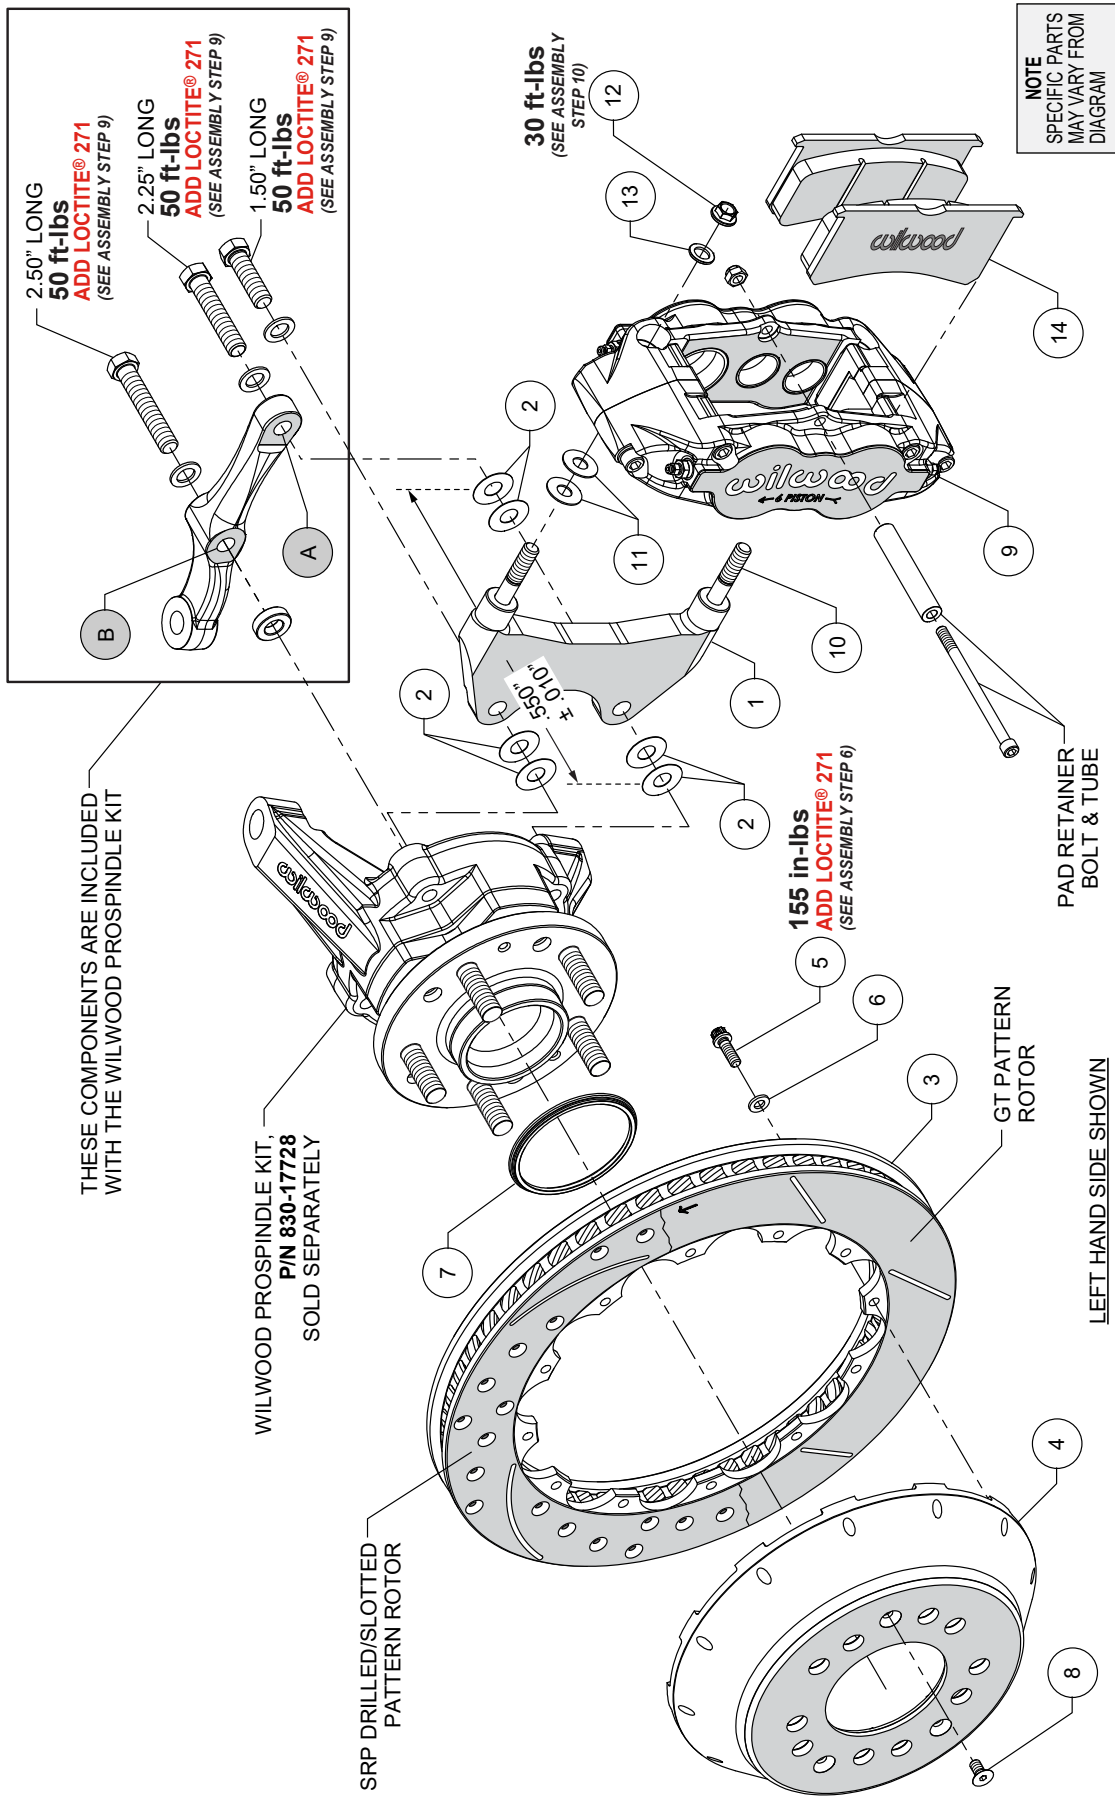
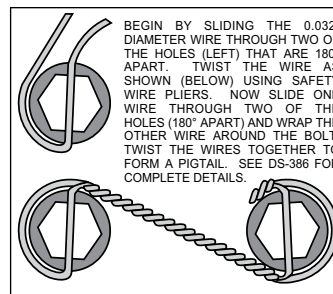

Figure 1. Typical Installation Configuration
Figure 3. Safety Wire Diagram
- NOTE:** This brake kit fits Wilwood's 2" drop ProSpindle (P/N 830-17728). Some hardware shown in Figure 1 is included with the ProSpindle kit (sold separately).
NOTE: Numbers in parenthesis refer to the parts list and Figure 1 on the preceding pages.
NOTE: Each Wilwood ProSpindle kit (sold separately) includes bolts, washers, and a spacer to mount the steering arm and caliper bracket. The various bolts are identified by length in the following instructions and in Figure 1.
STEP 1 The caliper bracket (1) should initially be installed with clean, dry threads on the mounting bolts. Orient the bracket as shown in Figure 1 and Photo 1.
STEP 2 Install the bracket (1) at top spindle hole using 1.50" long bolt and .063" thick washer (from ProSpindle kit), and two .016" thick shims (2) between the bracket and spindle, Figure 1 and Photo 2
STEP 3 Orient the steering arm, and identify the hole marked 'A', as shown in Figure 1 and Photo 2. Install at bottom spindle hole using 2.25" long bolt and .063" thick washer (from ProSpindle kit), two .016" thick shims (2) between the bracket and steering arm, and
another two .016 thick shims (2) between the bracket and spindle, Figure 1 and Photo 2. The bracket is located between the steering arm and spindle. **NOTE:** The bracket and shim washers must add up to a total thickness of .550" ± .010".
STEP 4 Finish attaching the steering arm through the hole marked 'B', as shown in Figure 1 and Photo 2. Install using 2.50" long bolt, .063" thick washer, and .250" thick spacer (all from ProSpindle kit), Figure 1 and Photo 2.
STEP 6 Orient the rotor (3) and the hat (4) as shown in Figure 1, and Photo 3. Attach rotor to hat using bolts (5) and washers (6). Apply red Loctite® 271 to the bolt threads and torque to value shown in Figure 1 using a criss-cross pattern. For an added measure of security, the bolts may be safety wired using standard 0.032 inch diameter stainless steel safety wire as shown in Figure 3. Refer to Wilwood's data sheet DS-386 (available at www.wilwood.com/Pdf/DataSheets/ds386.pdf) for complete safety wire installation instructions.
STEP 7 Install the rotor registration adapter (7) onto the register of the hub assembly with the smaller O.D. facing outward, Photo 4. Slide the rotor/hat assembly (3/4) onto the hub, taking care to align the small countersunk holes in the hat with the small threaded holes in the hub, Figure 1. **NOTE:** The hat must fit flush against the hub face or excessive rotor run out may result. Install rotor locator screws (8) to keep the rotor/hat assembly in place while continuing with the installation, Photo 5.
STEP 8 **NOTE:** This kit contains distinct right and left hand calipers that must be mounted in a specific direction, as described below. Initially place two .035" thick shims (11) on each stud (10) as shown in Figure 1 and Photo 6. Mount the caliper (9) onto the bracket (1) using lock nuts (12) and washers (13), Figure 1. Ensure that the caliper is mounted so that the largest pistons are at the rotor exit end of the caliper, in relation to the direction of forward rotor rotation. Temporarily tighten the lock nuts and view the rotor through the top opening of the caliper. The rotor should be centered in the caliper, Photo 7. If not, proceed as follows:
- Adjust by adding or subtracting shims (2) between the **bracket and the spindle**. Always use the same amount of shims on each of the two bolts **between bracket and spindle**.
- For the lower bracket mount bolt, if a shim (2) was added between the **bracket and spindle**, then a shim must be removed between the **steering arm and bracket**, such that the total thickness of bracket and shims remain equal to .550 ± .010".
STEP 9 Once the caliper alignment is correct, remove the ProSpindle supplied bolts one at a time, apply red *Loctite*[®] 271 to the threads, and torque to value shown in Figure 1.
STEP 10 Remove the caliper pad retainer bolt, lock nut, and tube from the caliper. Insert the brake pads (14) into the caliper, with the friction material facing the rotor, as shown in Photo 8. Check that the top of the brake pad is flush with the outside diameter of the rotor, Photo 9. If not, adjust by adding or subtracting shims (11) between the caliper and the bracket. After the caliper pad height is set, reinstall the pad retainer tube, bolt, and lock nut, Photo 10. The pad retainer lock nut should be snug without play in the bolt or tube. Be cautious not to over tighten. Torque the caliper lock nuts (12) to value shown in Figure 1.